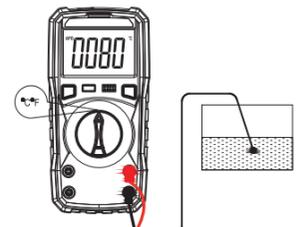

Figure 8
- (1). The LCD displays "OL" while no any inductance input.
- (2). Range "mH" is auto convert range of 2mH/20mH/200mH, and range "H" is the auto range of 2H/20H.
- (3). Do not input voltage at this range.
- (4). Inductance measurement below 0.2mH is for reference only.
(9). Temperature measurement (Figure 8)